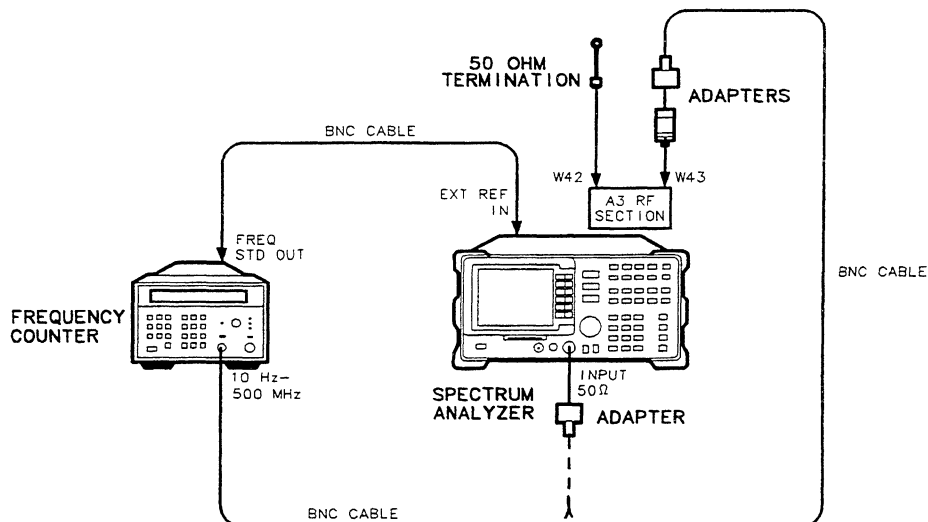

Figure 10-5. Tracking Oscillator Adjustment Setup
14. Connect the equipment as shown in Figure 10-5. The microwave frequency counter provides the frequency reference for the spectrum analyzer.